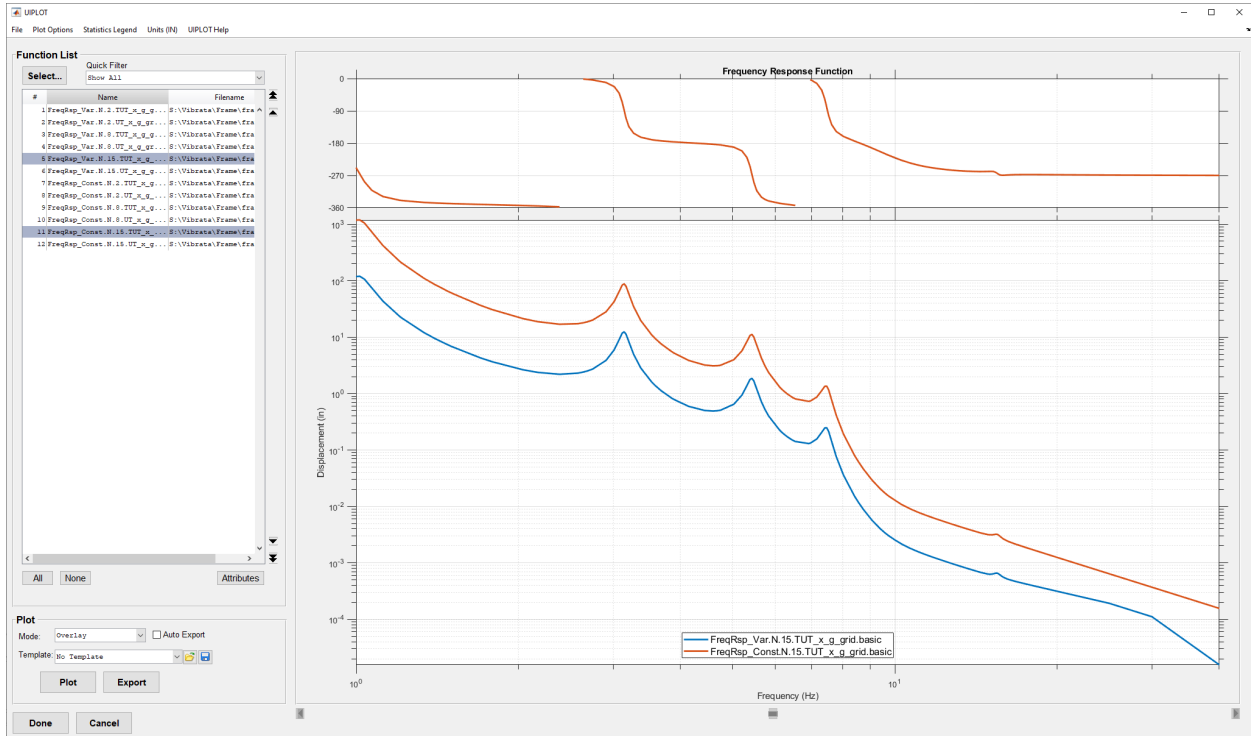

Figure 4-37. Compare the responses of the top corner node for the two inputs.
- c. Plot and compare the results. For example, Figure 4-37 shows the total X-displacement of node 15 from both events. Although the amplitudes differ due to the different excitation levels, the phase changes are identical for both curves because these depend only on the modal frequencies. Use the Plot Options menu to change the data displayed in the legend (inset). Use the right-mouse-button menu in the plot window to show the X-axis with a log scale.